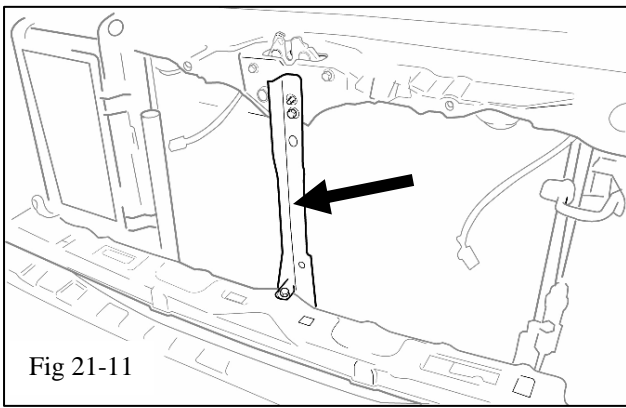

Fig 21-11
- (k) Remove the radiator support brace by removing 1 nut and 2 bolts (Figs 21-11 & 21-12). The nut at the top is covered with a plastic cap to make it tamper proof. Use a small pry tool to remove this cover exposing the hex nut. Retain the nut and cover plus 1 of the 2 bolts. Also retain the brace.